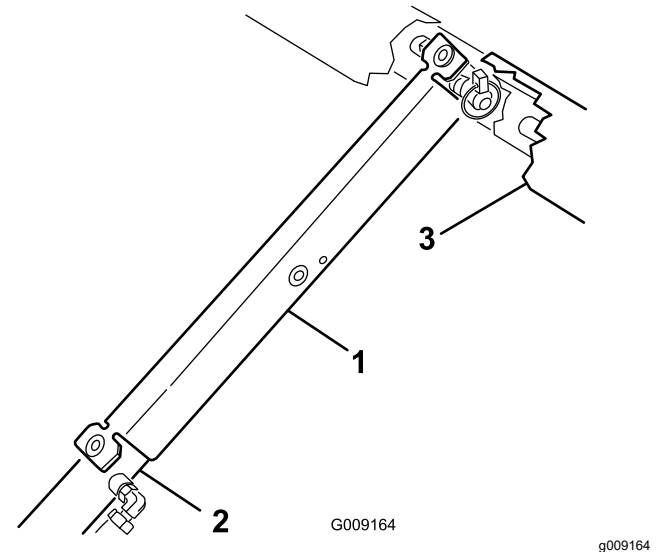

Figure 33
3. Push the bed support onto the cylinder rod, ensuring that the support end tabs rest on the end of cylinder barrel, and on the cylinder-rod end (Figure 33).